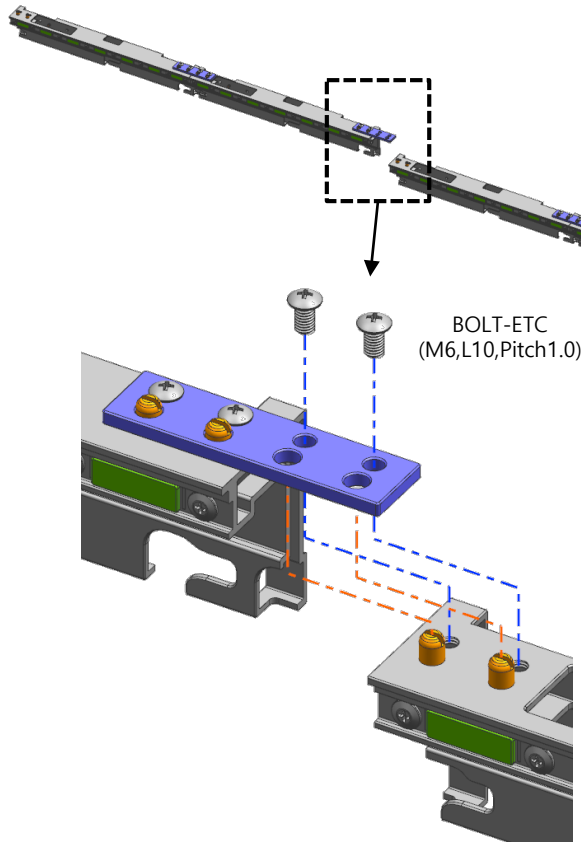

Fig.1
① Assemble ASSY FRAME V L / R 2X2 2SET using BRACKET LINK based on 4X4. (Fig.1)